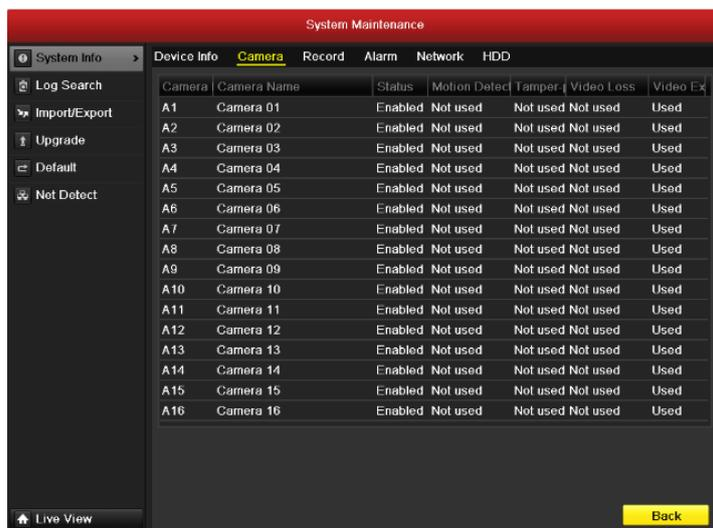

Figure 12.2 Camera Information Interface
2. Click the **Camera** tab to enter the Camera Information menu to view the status of each camera, as shown in Figure 12.2.